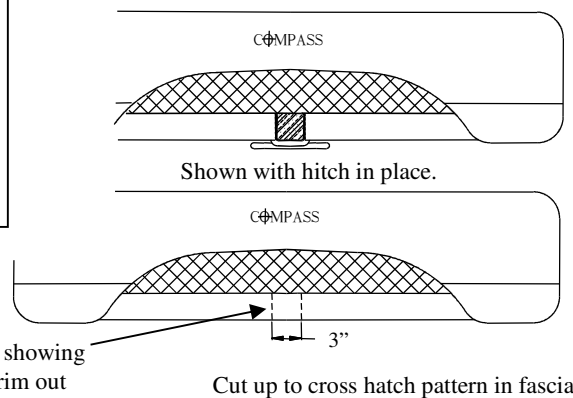
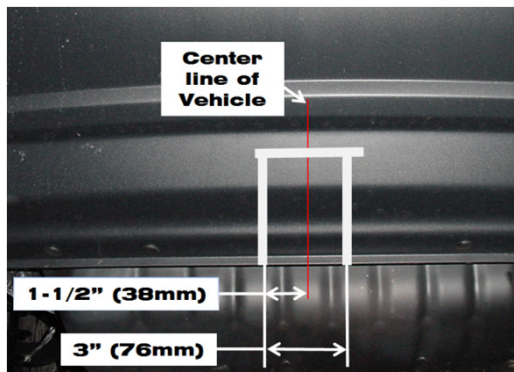
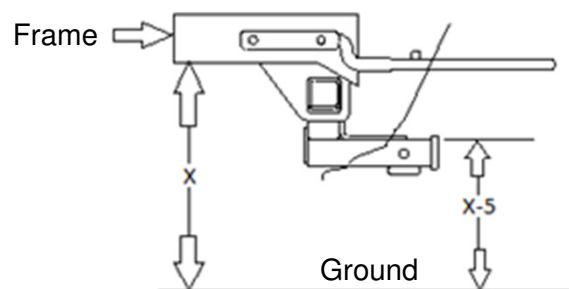

Figure 2
Figure 3
Figure 4
1. If vehicle has **optional tow hook** see Note 1. above. For **Compass Rallye** see Note 2 and Figure 2. **Check with vehicle owner.** For **2011 and later Jeep Patriot and Compass models**. Fascia trimming is required for hitch installation. Obtain vehicle owners approval before cutting. See Figure 3 and figure 4 for fascia trimming diagrams.
** 2011 model has 2" vertical fascia trim (measured from the bottom of the fascia lip). Mark fascia with non-permanent marker. Re-confirm fascia cut height by using figure 4 procedure and mark height from ground on fascia. Cut the lower of the two marks.
5. On Compass Rallye Package only. Use hitch receiver tube as a guide to cut a 2-1/4" wide by 2" high piece out of bumper fascia to allow clearance for ball mounts. See Figure 2.